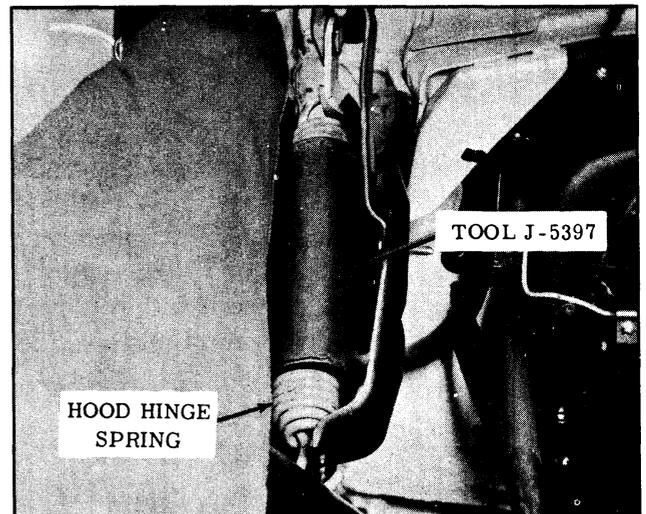
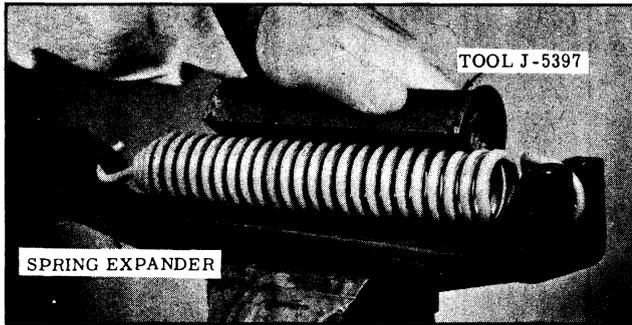

Fig. 16-2 Hood Hinge Spring Removal
Fig. 16-6 Expanding Hood Hinge Spring
1. Remove hinge springs with Tool J-5397. (See Fig. 16-2)
2. Remove hood hinge springs using Tool J-5397. (See Fig. 16-2)
When removing the spring from the hood hinge, raise hood to expand spring, and place Tool J-5397 over the spring. (See Fig. 16-2) When installing a new spring, a suitable expander must be used to stretch the spring. Then Tool J-5397 can be placed over the spring. (See Fig. 16-6).